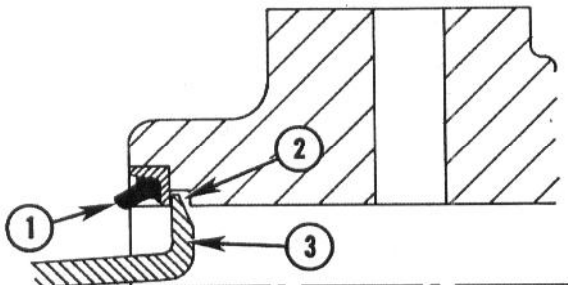

Fig. 46 — Removing Metallic Shell Wiper Seal
i. Slide bearing assembly from rod ... remove all seals from bearing, see Fig. 46.